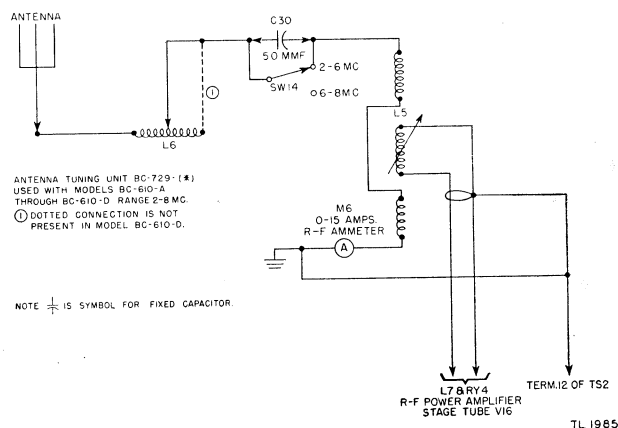

Figure 40. Antenna Tuning Unit BC-729-(\*), schematic wiring diagram.
**36. Antenna Tuning Unit BC-729-( ) (fig. 40)**